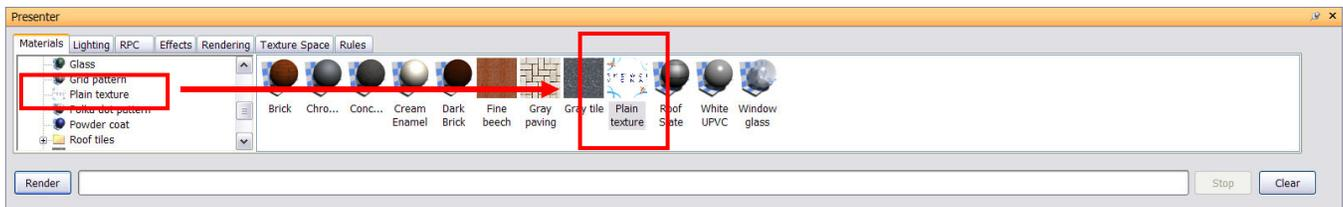

Figure 2
2. In the NavisWorks Presenter dialog, drag the “Plain texture” material from the left to right pane (Figure 2).